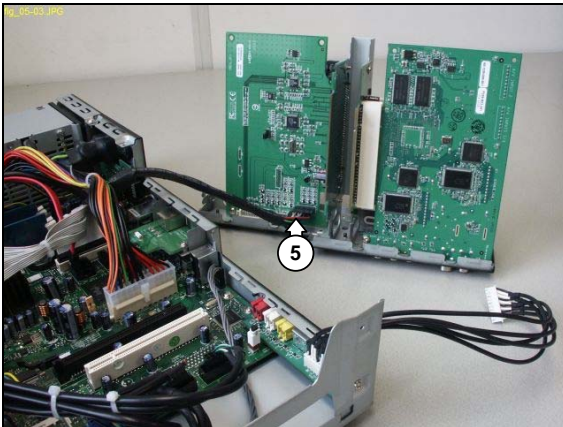

Figure 12.5-3
6. Disconnect the SCART cable (5) from the graphic card. See Figure 12.5-3.